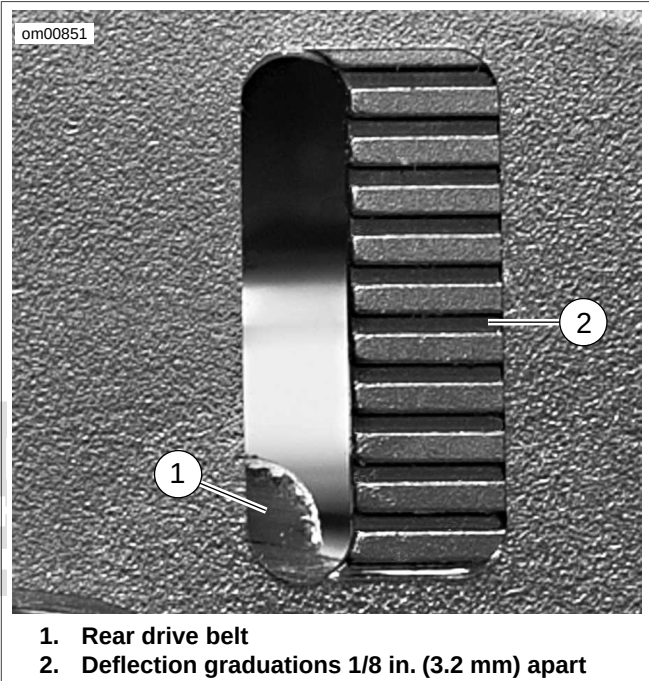

Figure 1-53. Belt Deflection Window (typical)
- b. See Figure 1-53. On all other models, note the belt position according to the graduations on the belt deflection window located on the rear drive belt guard.